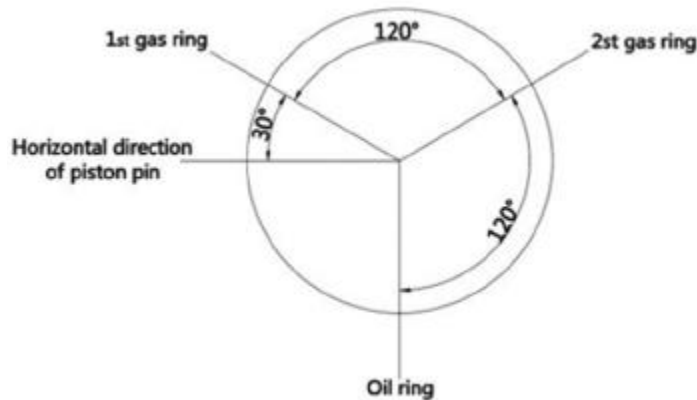

Figure 120.
- Ensure the piston ring gaps are located correctly (Figure 120).
- The “N” mark on the camshaft gear must be facing the marking on the crankshaft timing gear (Figure 120).